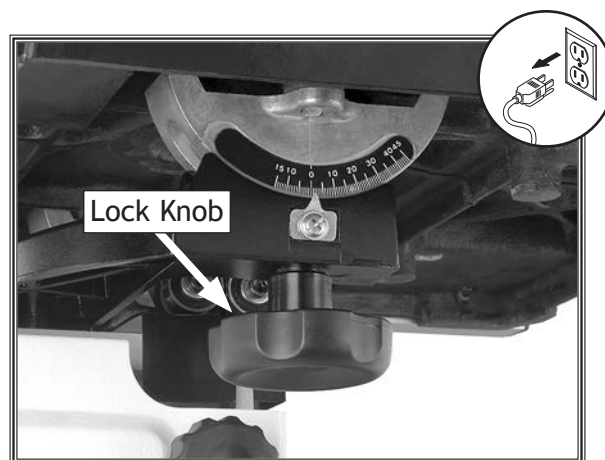

Figure 40. Location of trunnion lock knob (1 of 2).
2. Loosen the two trunnion lock knobs underneath the table (see **Figure 40**), then use the tilt scale on the front of the trunnion to bring the table to the desired angle.